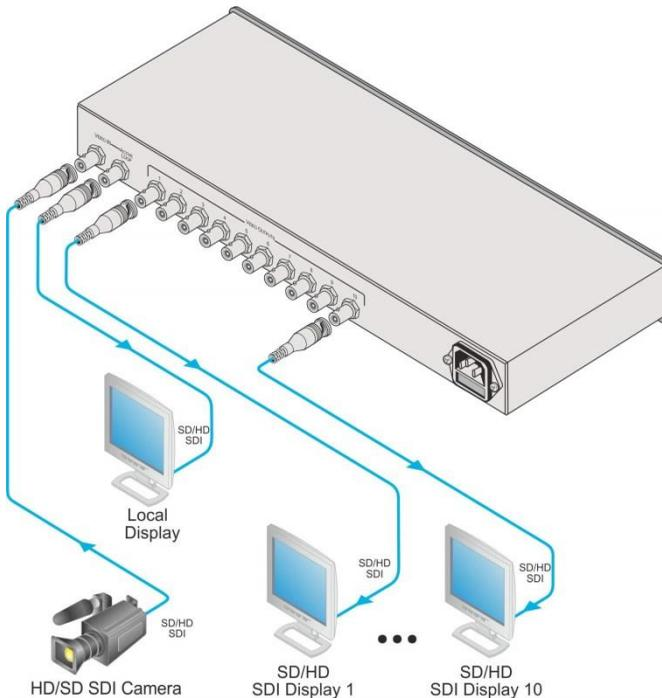

Figure 3: Connecting the VM-10HDxI 3G 1:10 HD/SD – SDI Distribution Amplifier
To connect the **VM-10HDxI** as illustrated in the example in Figure 3:
3. Connect the power cord (not illustrated in Figure 3).